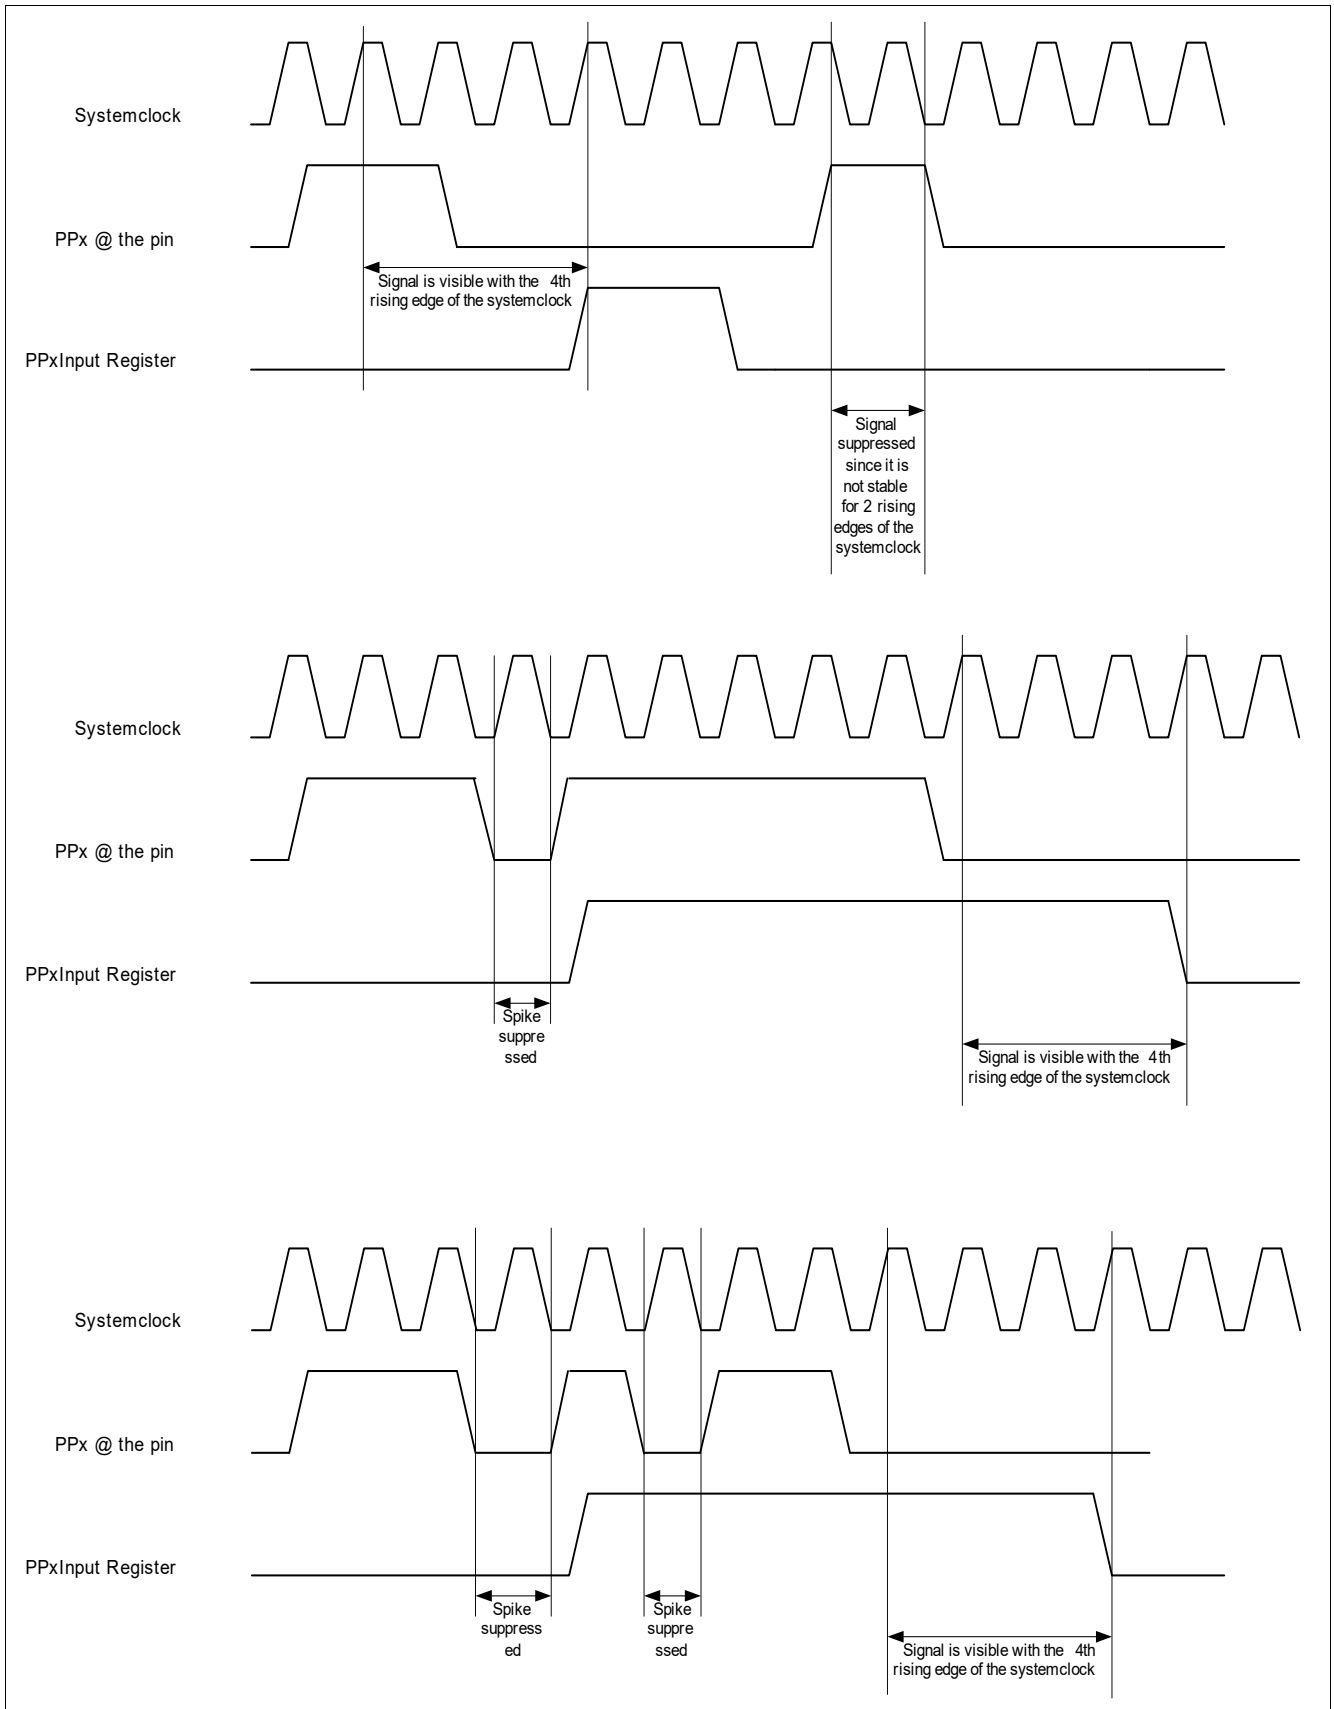

Figure 20 Synchronization Stage & Spike Suppression Examples
**Figure 20** shows examples of different input signals and how they are processed by the the synchronization stage and the spike filter.